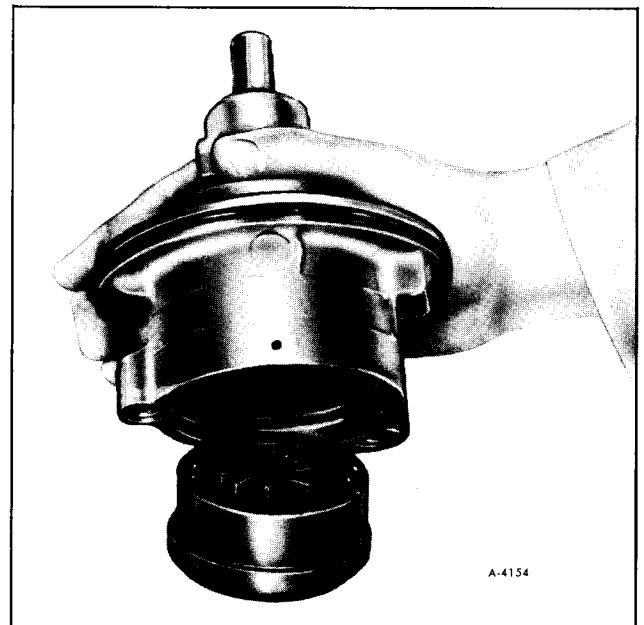

Figure 15—Removal of Shaft, Pressure Plate, Pump Ring, Vanes and Rotor
10. Remove pressure plate, shaft, pump ring, vanes and rotor. (figure 15).